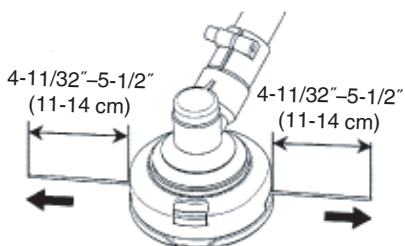

Fig. 26
- (7) The initial cutting line length should be approx. $4\text{-}11/32\text{''-}5\text{-}1/2\text{''}$ (11-14 cm) and should be equal on both sides. (Fig. 26)